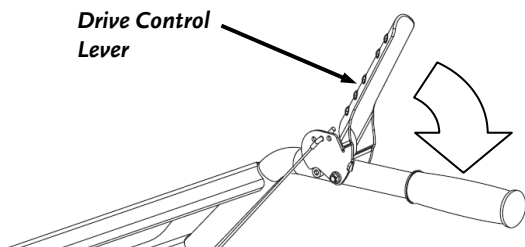

Figure 16
1. Pull the drive control lever against the Handlebar to engage the tines (**Figure 16**).